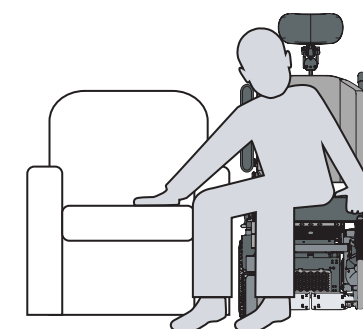

Figure 1. Use caution when transferring to and from your wheelchair.
4. Learn how to position your body and how to support yourself during a transfer. (See Fig. 1 below for recommended transfer position).